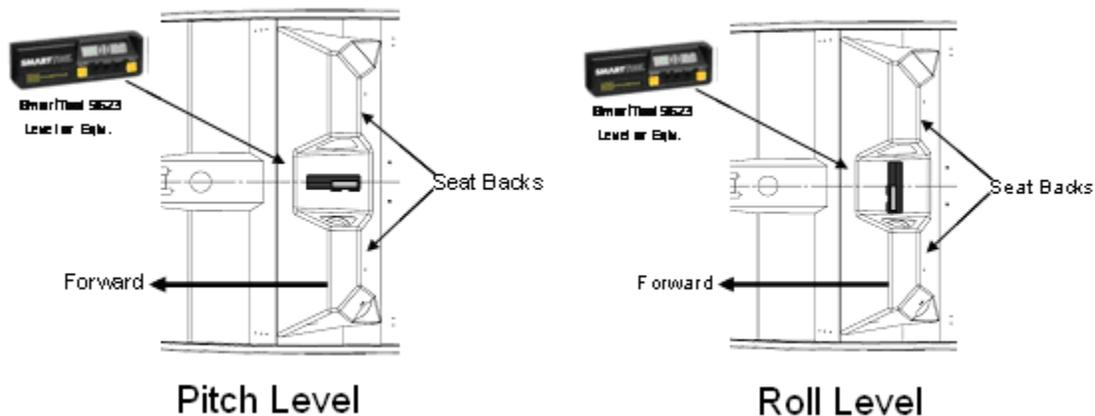

Figure 28-26 Level Placement
5. Referring to Figure 28-26, place a digital level (SmartTool 92346 or equivalent) between the two XL-2 seat backs and parallel with the centerline of airplane. Digital level should indicate a pitch of $1.7 \pm 0.2^\circ$ nose up. If the level does not indicate $1.7 \pm 0.2^\circ$, adjust the nose gear by means of tire inflation or shim as required to achieve $1.7 \pm 0.2^\circ$.